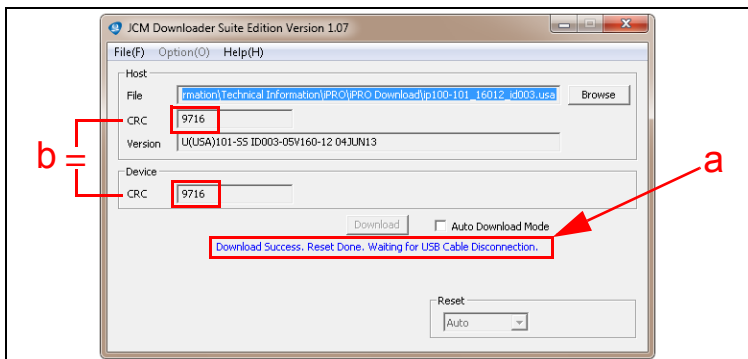

Figure 6 JCM Downloader Suite Display
1. Click on the “Service Mode” pull-down Menu, and Click-select “Download” from the Menu. The JCM Downloader Suite display will appear (Figure 6).
NOTE: A Blue Barograph will display the download progression. Additionally, the iPRO Unit's Front Panel-mounted Red and Green LEDs will flash in an alternating pattern during the download process. When downloading is complete, the Download Success, Reset Done, Waiting for USB Cable Disconnection Message is displayed (Figure 6 a).